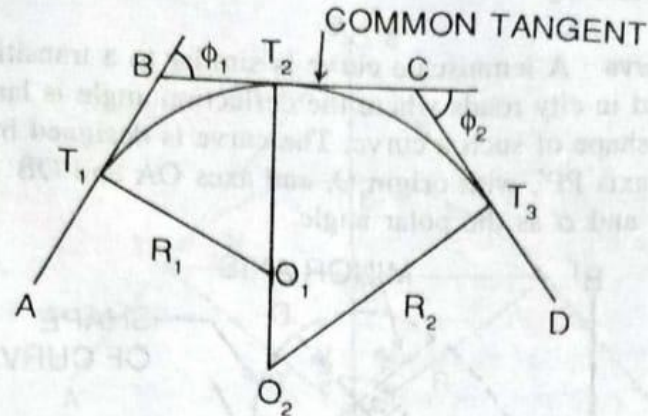

Fig. 10.6
2. Compound curve When a curve consists of two or more arcs with different radii, it is called a compound curve. Such a curve lies on the same side of a common tangent and the centres of the different arcs lie on the same side of their respective tangents (Fig. 10.6).